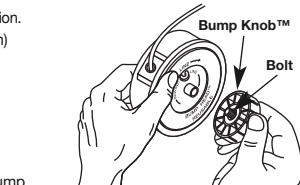

Fig. 13
1. Hold the outer spool with one hand and unscrew the Bump Knob™ counterclockwise (Fig. 13). Inspect the bolt inside the Bump Knob to make sure it moves freely. Replace the Bump Knob if damaged.
1. Hold the outer spool with one hand and unscrew the bump knob counterclockwise (Fig. 13). Inspect the bolt inside the bump knob to make sure it moves freely. Replace the bump knob if damaged.